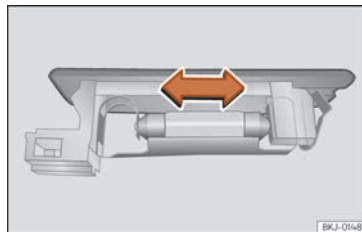

Fig. 64 Boot light.
- Press the bulb sideways and remove it from its housing »»» **Fig. 64**.